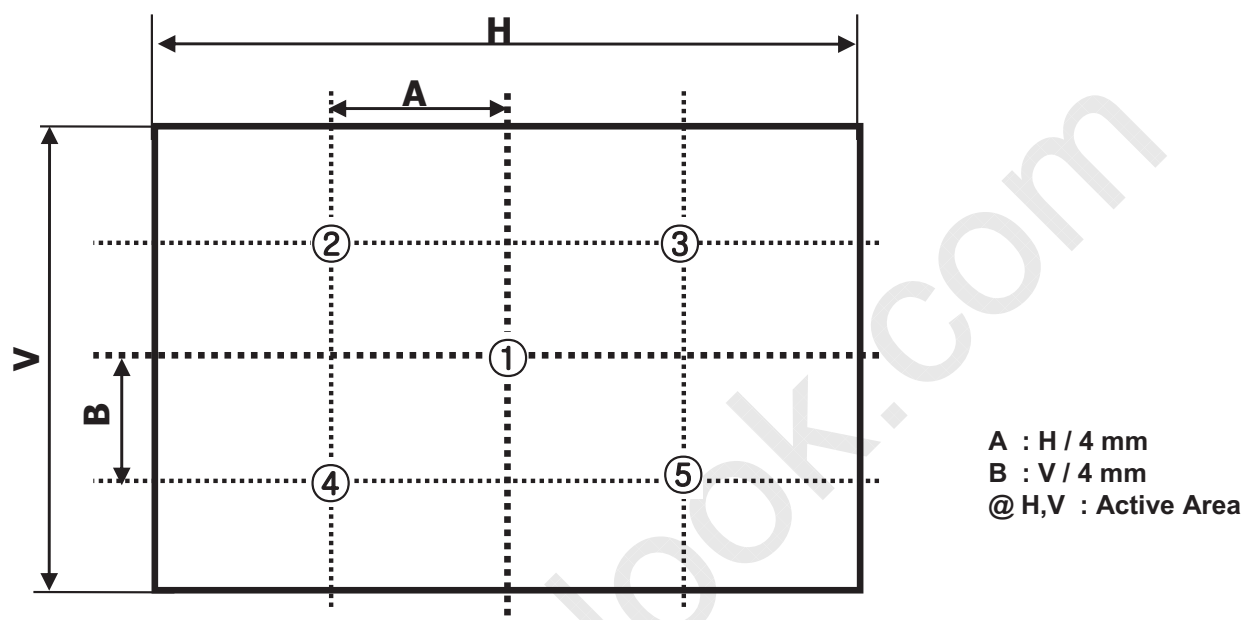

FIG. 2 5 Points for Luminance Measure
2. Surface luminance is determined after the unit has been 'ON' and 60min after lighting the backlight in a dark environment at  $25 \pm 2^\circ\text{C}$ . Surface luminance is the luminance value at center 1-point across the LCD surface 50cm from the surface with all pixels displaying white. For more information see the FIG. 2.
For more information, see the FIG. 2